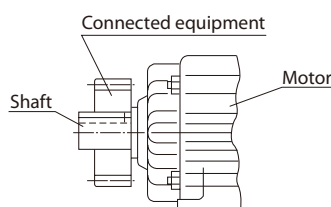

Figure 5-2
- The working load point of the sprocket or gear should go from the center of the shaft to the motor. (See Figure 5-2)